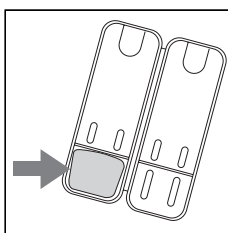

fig. 2
- Open the chlorine filter holder by pressing the parts marked "PUSH" and carefully place the filter in the holder as shown in fig. 2.